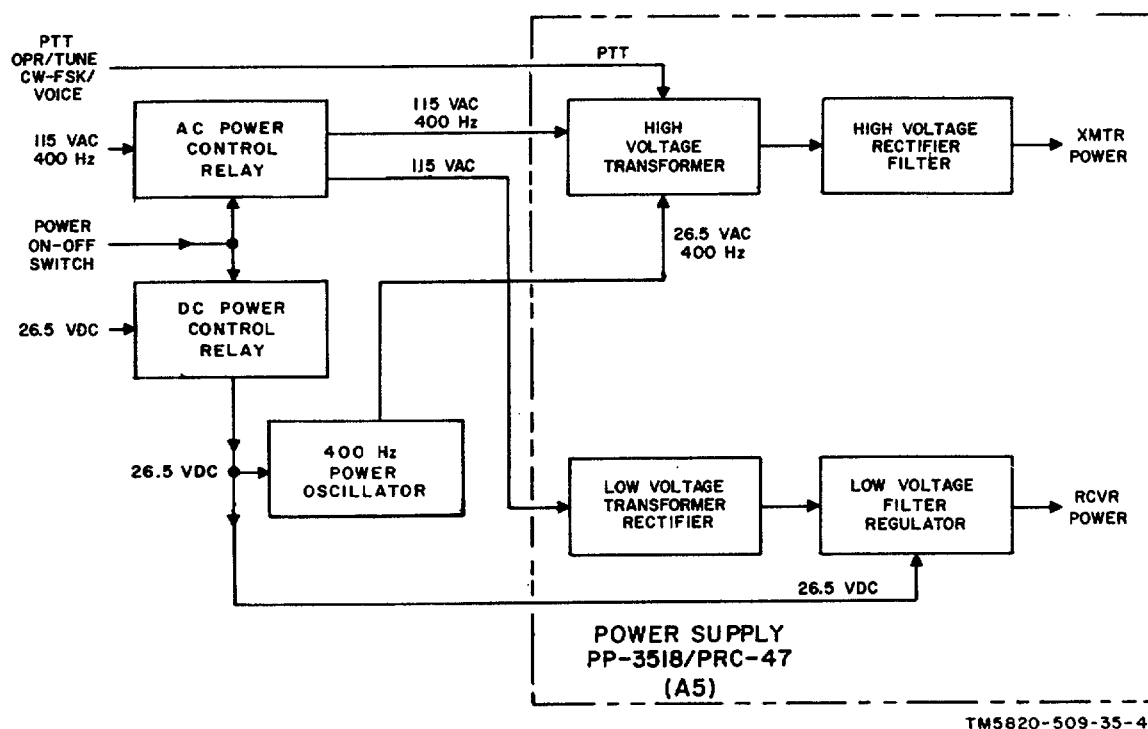

Figure 2-4. Power Supply Circuits, Block Diagram.
d. The power supply circuits of the AN/PRC47 are shown in figure 2-4. These circuits obtain primary power from either the 115-volt, 400-Hz ac mains or from a 26.5 volt dc primary power source similar to Storage Battery BB-451/U. The appropriate circuit within the power supply is automatically selected when the power cable is attached to the front panel connector of the radio set. Operation of the POWER-LIGHTS switch on the front of RT-671/PRC-47 to the POWER ON position causes the appropriate power control relay to operate and connect the appropriate input circuit to the selected primary